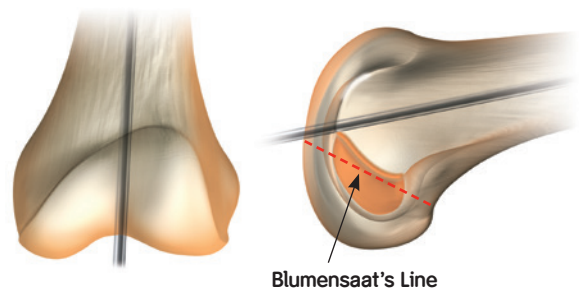

Figure 7
3. The Guide Pin should be in line with the femoral axis in the A/P view and anterior to *Blumensaat's Line* in the lateral view (Figure 7).